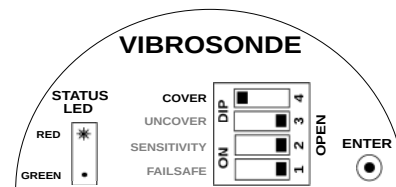

Figure 10: Cover Delay Switch Position
2. To set the Cover Delay, set the COVER switch to CLOSE position as shown in Figure 10. (CLOSE is the opposite of OPEN for a DIP switch.) The STATUS RED LED will glow.